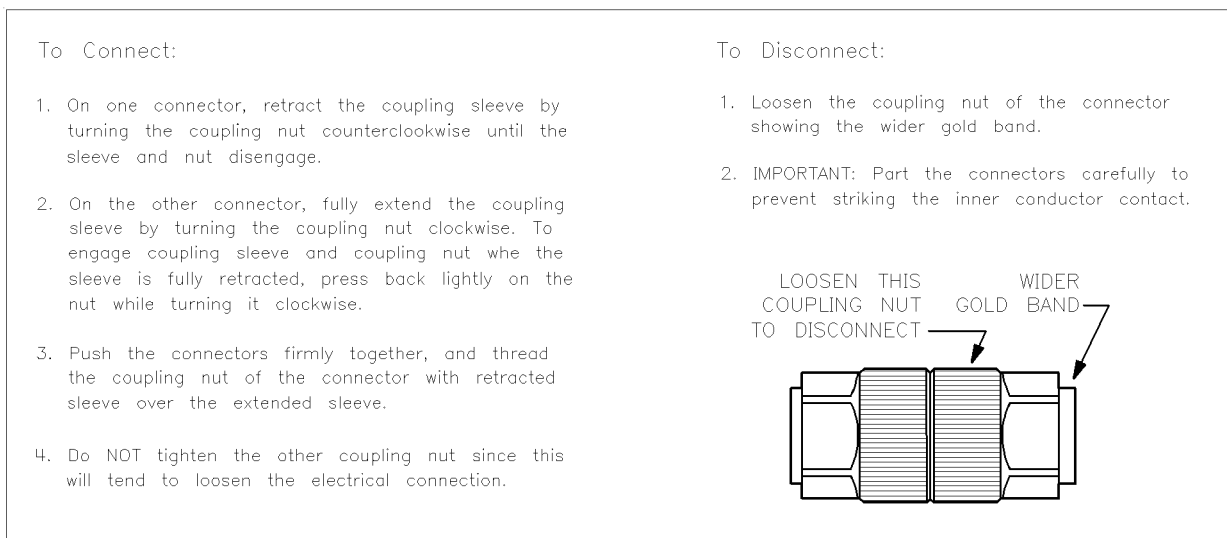

Figure 2-2. Using Precision 7 mm Connectors
4. For a precision (Option 001) 7 mm connector, refer to Figure 2-2.